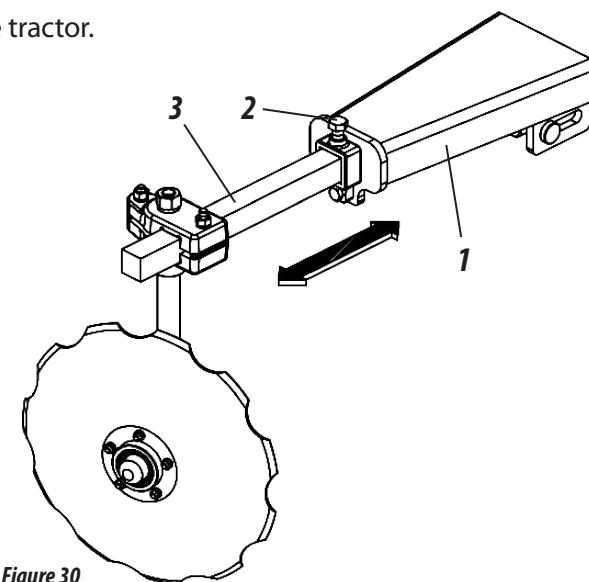

Figure 30
**ADJUSTING THE LINE MARKER BAR (FIGURE 30)**